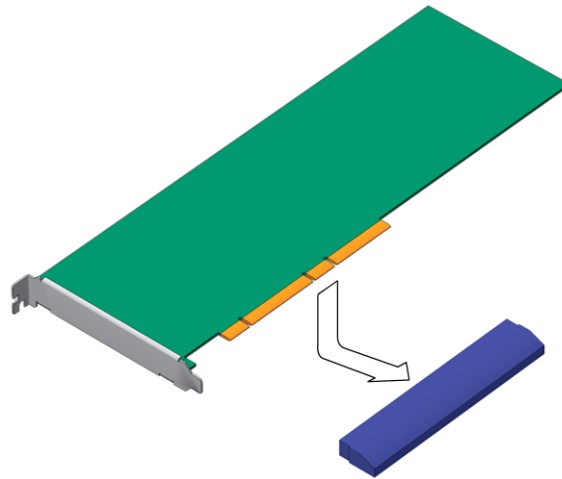

FIGURE 4-3 Installing the PCI-X Card Into the PCI Tray
5. Lower the PCI-X card into position on the PCI tray, then slide it to the right to seat it into the connector (FIGURE 4-3).